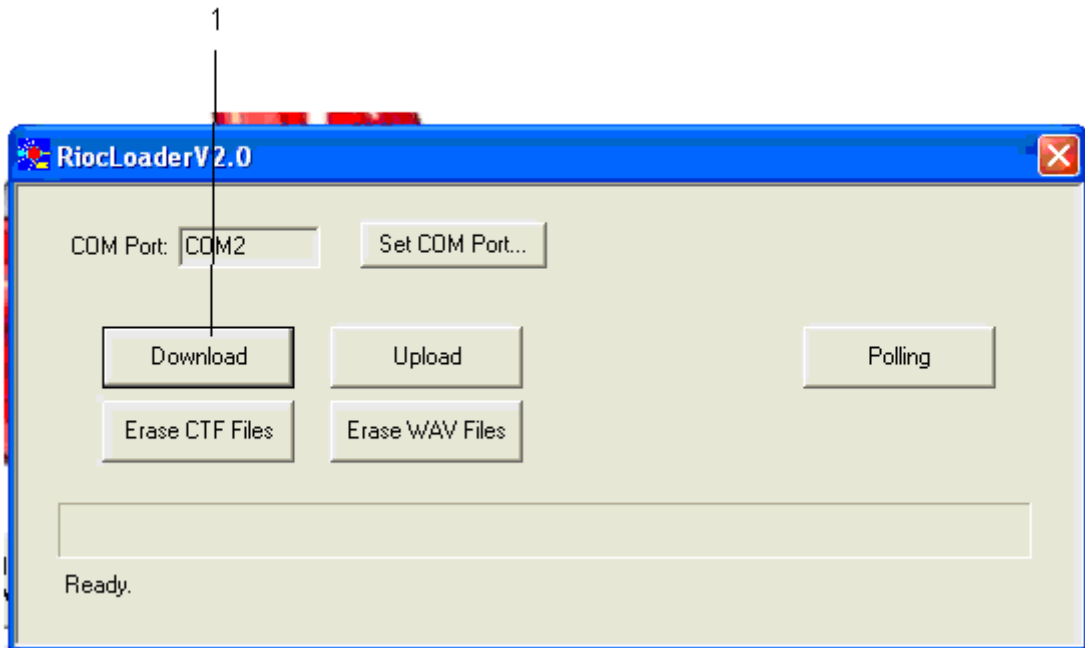

Figure 3
- (11) For RIOCT 1 you must download the files that follow:
- (12) For each configuration file that must be downloaded do Step 2.B.(12)(a) thru (c).
- (a) Select the Download button (Ref. Fig 3, Item 1).